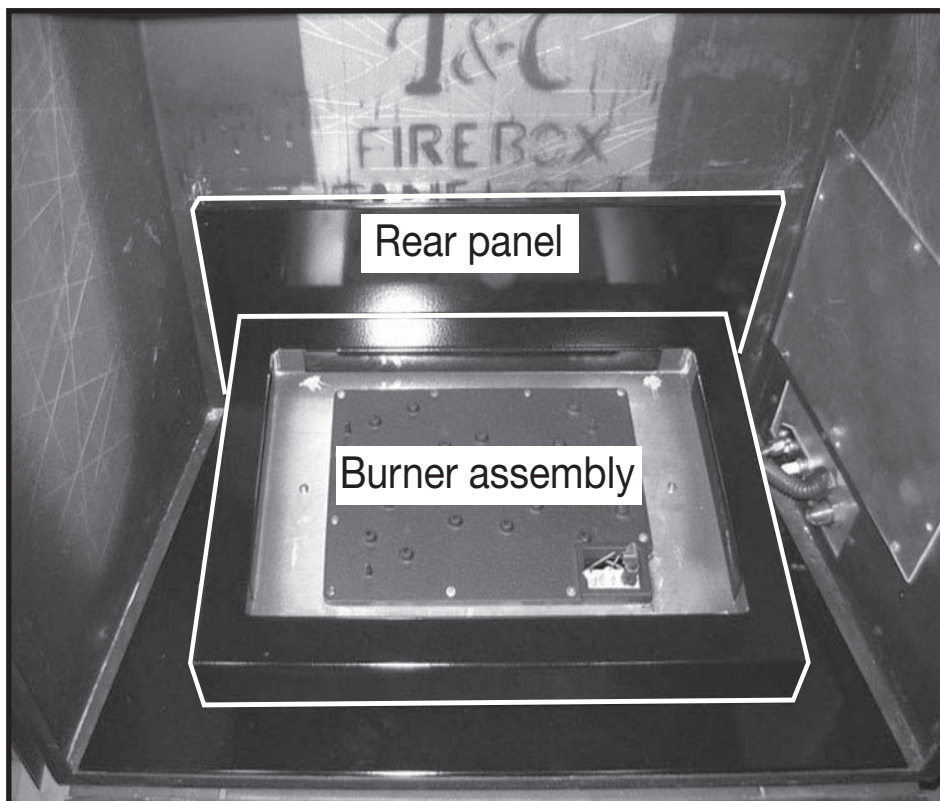

Figure 7: Lower rear panel and burner assembly.
5. Position lower rear panel centered at the rear of the firebox. Place burner assembly into the firebox against the rear panel (Figure 7).